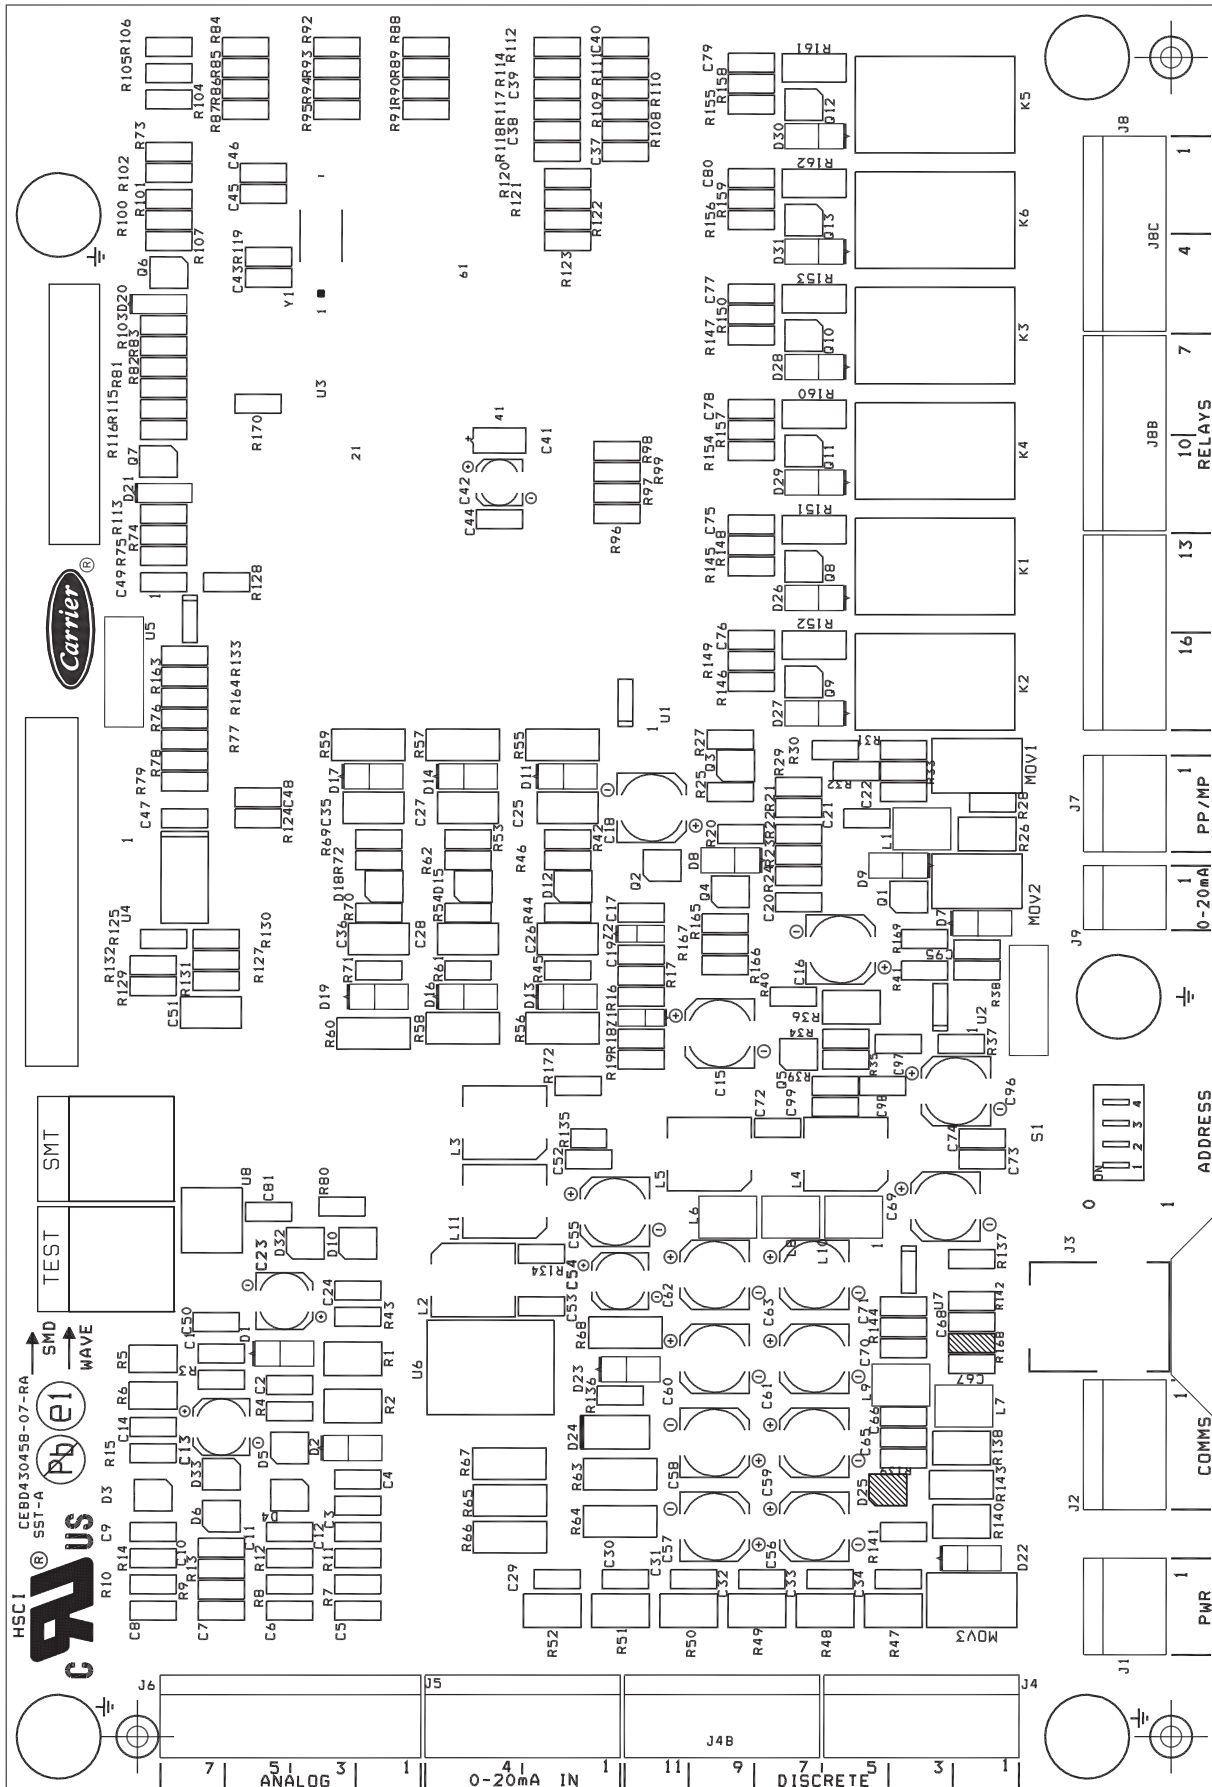
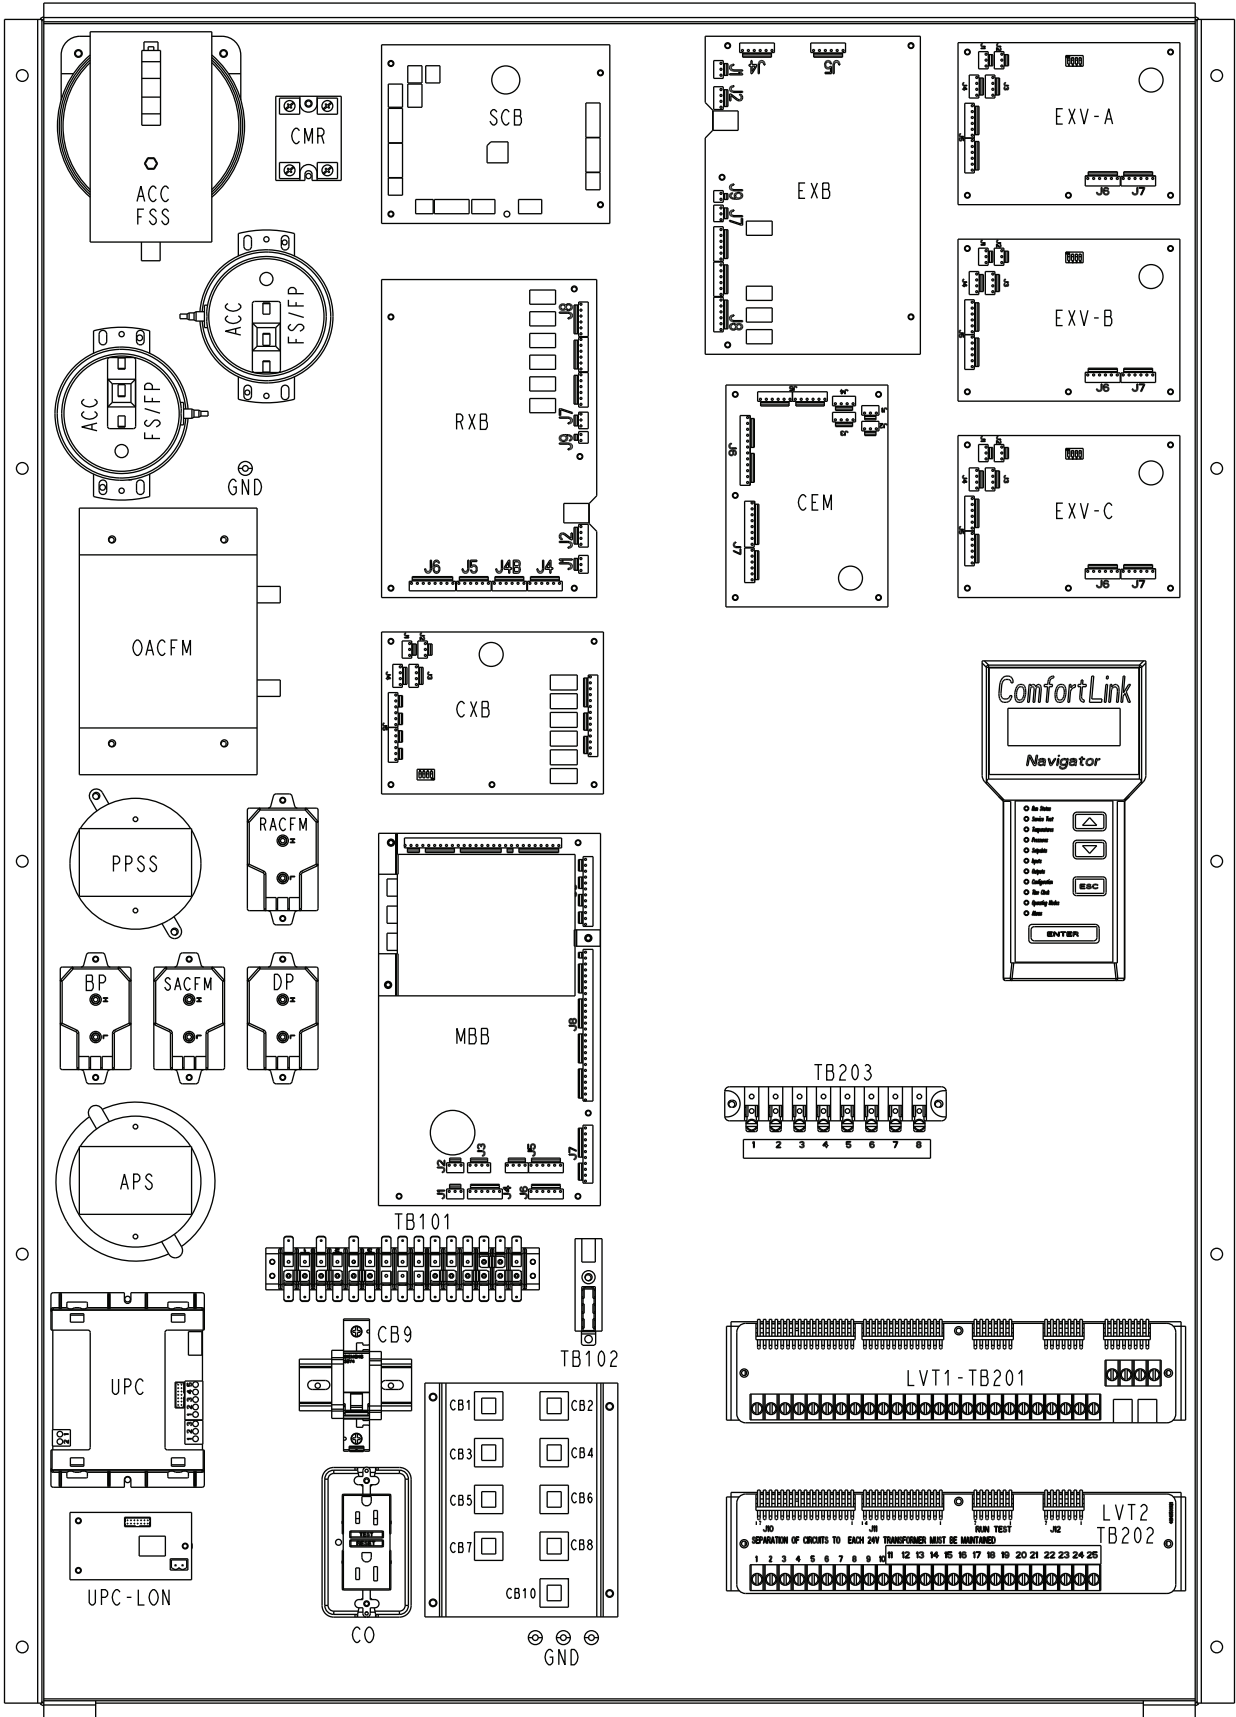

Fig. 1 — EXB Board
Fig. 2 — Main Control Box
The economizer control board accessory (EXB) is required for additional features that are offered from a *ComfortLink* controller. See Fig. 1. The following field-installed accessories are supported by this accessory:
NOTE: See Fig. 1 for all EXB board wiring connection locations. See Fig. 2 for control box board and plug locations.
4. Attach EXB board in the main control box in the location shown in Fig. 2 using the 5 no. 6-20 x 1-in. screws provided.
Red LED — Proper operation of the control boards can be visually checked by looking at the red status LEDs as shown on Fig. 1 and 2. When operating correctly, the red status LEDs on all boards should blink in unison at a rate of once every 2 seconds (1 second ON, 1 second OFF). If the red LEDs on all boards are blinking, but not in unison, then either the communication wiring between boards is incorrect, one or more of the boards is faulty, or there is a software problem.